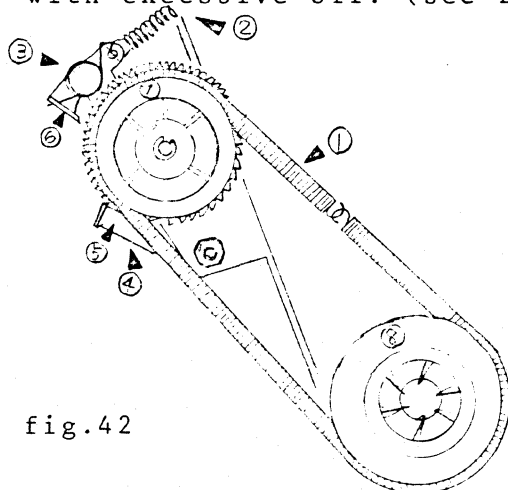

fig.42
Check if the referring springs are all in the proper position and all referring parts work free. (see fig.42)
Check if the surface of the feed pulleys and feed spring are not greasy with excessive oil. (see fig.42 ① ⑦ ⑧)